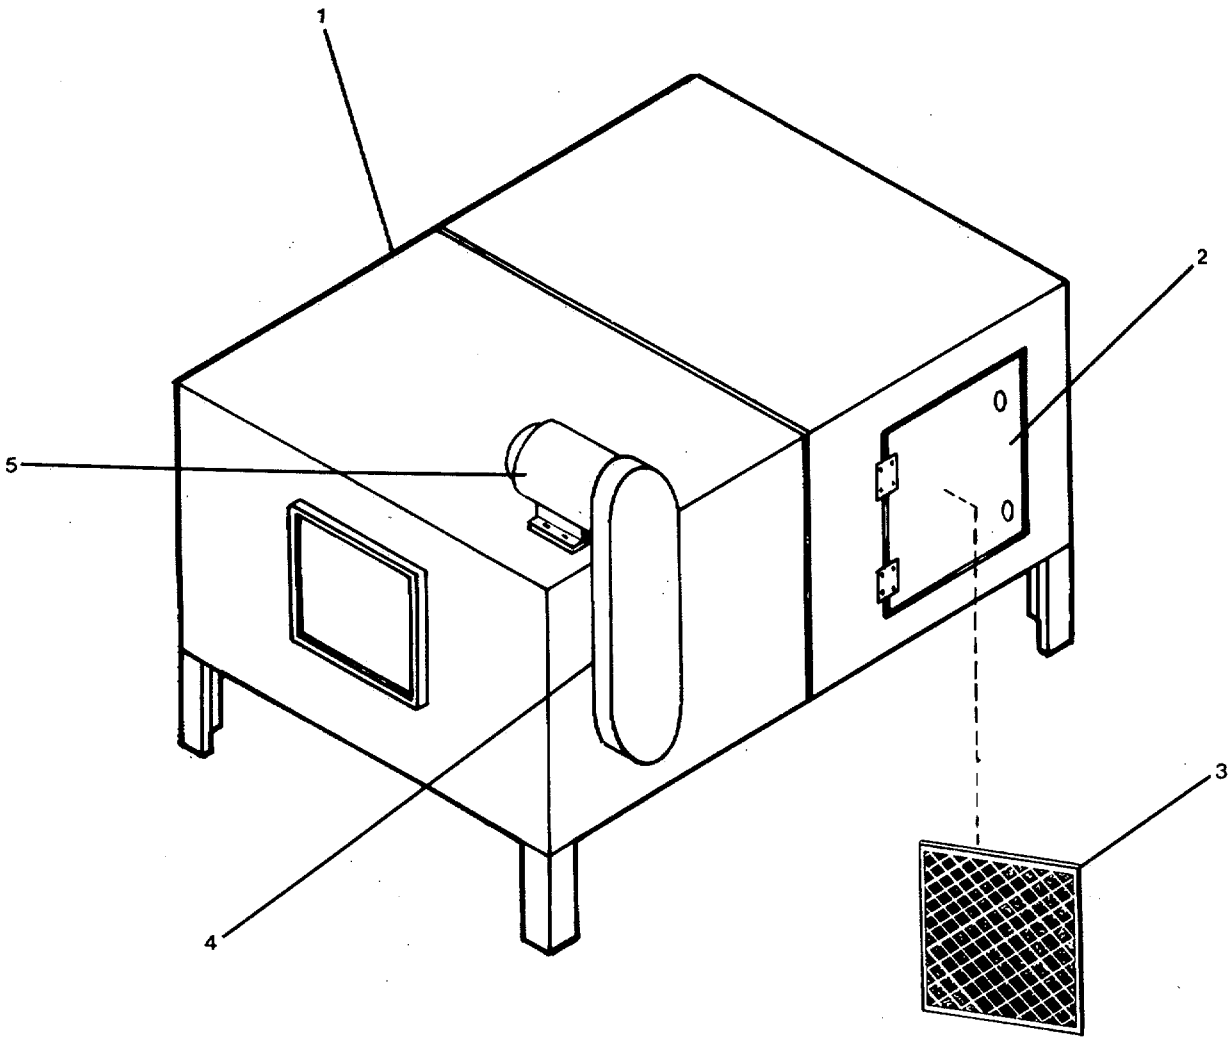

Figure 2-25 . Air Conditioner Upper Cabinet (A/C #2).
- (1) Open access door (2, FIGURE 2-25) in the upper cabinet (1). The door is on the same side of the unit as the motor and guard (5, 4).
- (2) Slide the six filters (3) from racks inside cabinet. Discard filters.
- (3) Install new filters (3). Make sure they are properly positioned in the racks.
- (4) Close access door (2).